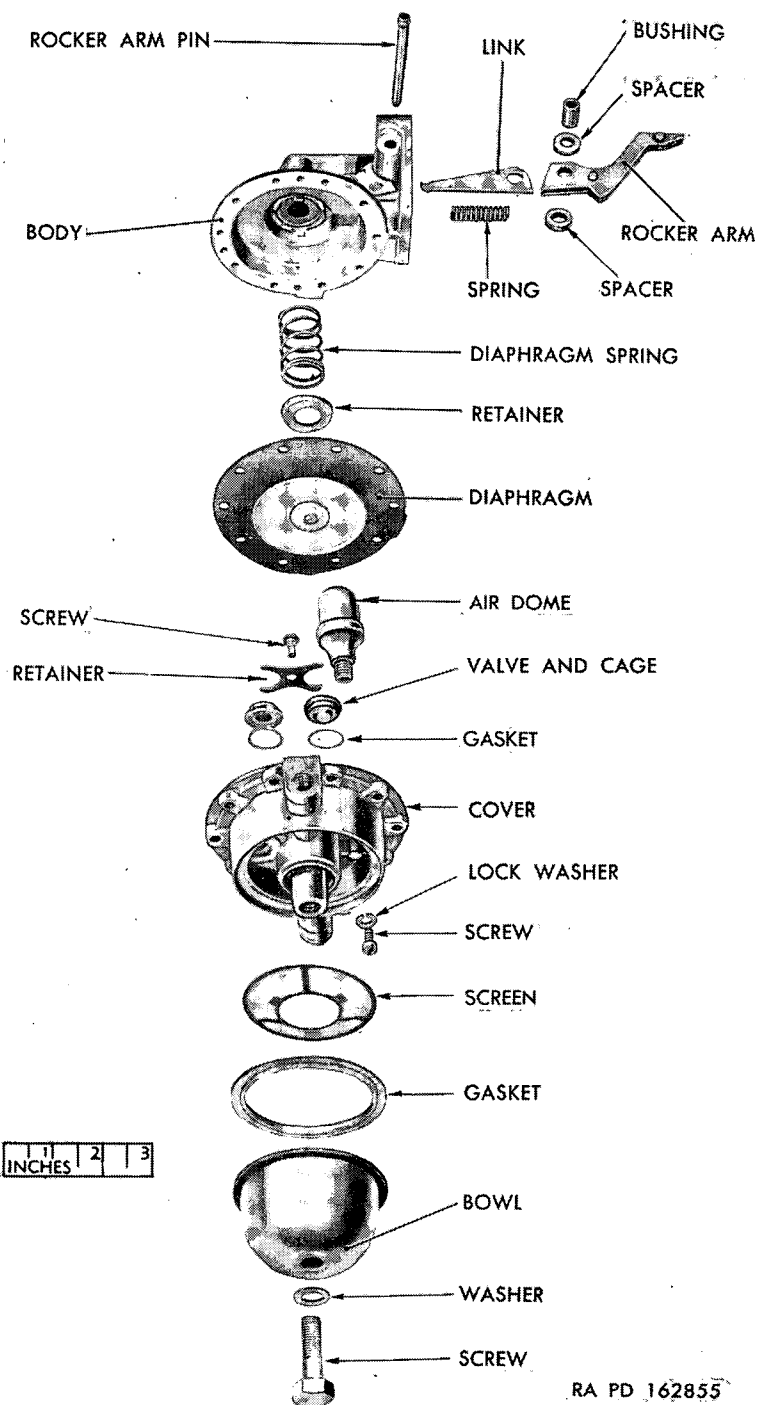

Figure 29. Fuel pump—disassembled (typical series AH and AW construction).
- (1) Mark edges of top cover and body (fig. 29) of series AH and AW fuel pump (fig. 28) with a file. Mark at heat shield stud, if used. The parts may then be assembled in the same relative positions and heat shield stud properly located.
- (2) Remove cover screws and lock washers. Also remove heat shield stud, if used. Separate cover from body by jarring cover loose with a light plastic hammer.
*a. Assemble Body (fig. 29).*
- (1) Make an assembly of rocker arm and link with bushing. If used, assemble one spacer on each end of bushing. Place assembly of rocker arm and link in body with link hook down.